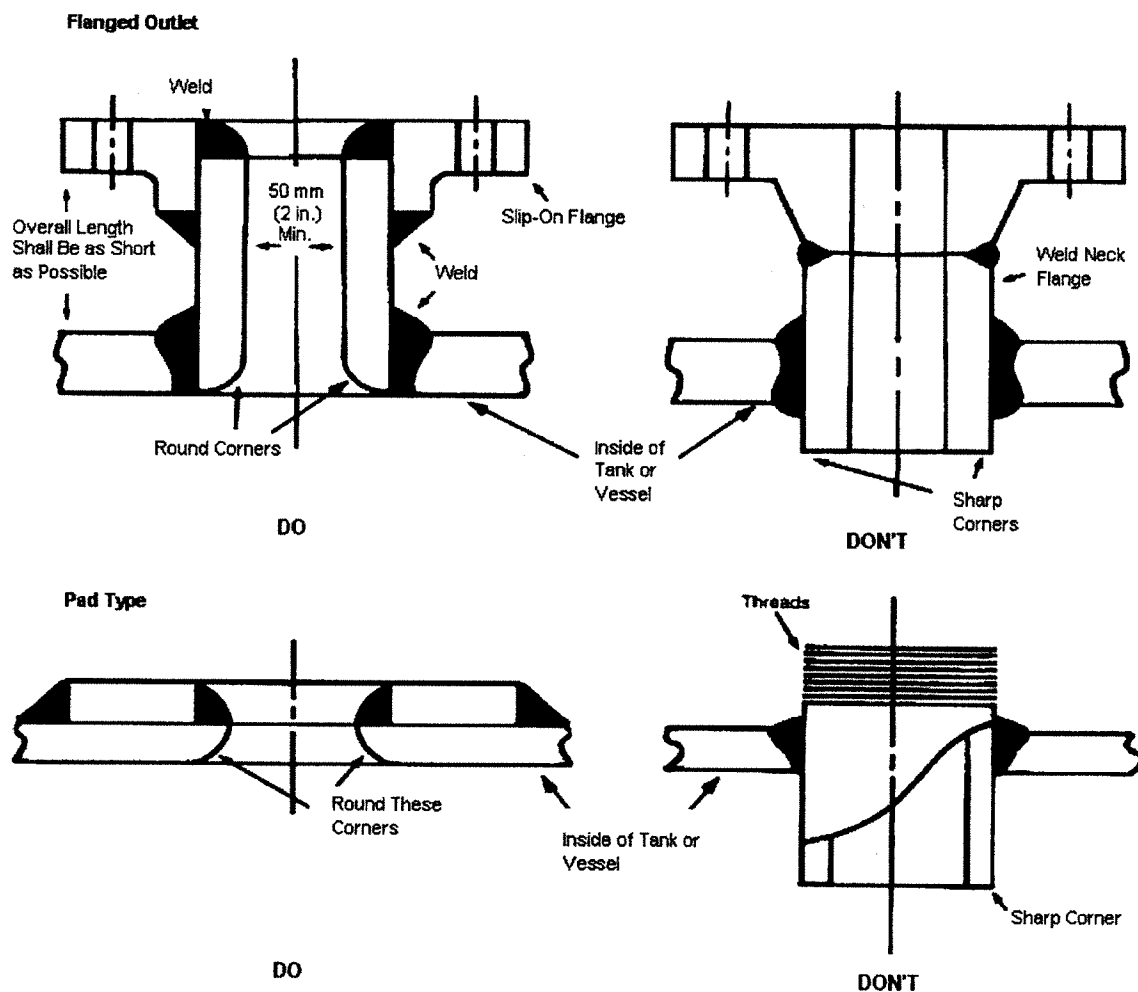
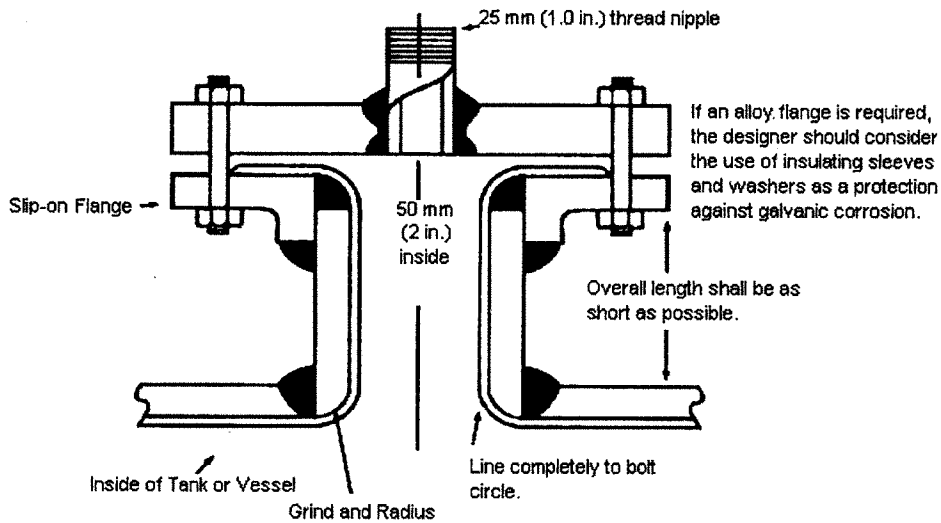

FIGURE A4
FIGURE A10
3.3.2 Threaded connections should not be used in tanks and vessels operating in corrosive environments (see Figure A4, Appendix A). However, if threaded connections cannot be avoided in corrosive environments, these parts shall be fabricated of corrosion-resistant materials, or constructed as shown in Figure A10, Appendix A.
3.3.3 Nozzle connections to be lined shall be as short as possible and be a minimum of 50 mm (2 in.) in diameter (see Figure A4, Appendix A). Connections less than 50 mm (2 in.) in diameter shall be suitably attached through a reducing flange (see Figure A10, Appendix A). When trowel-applied thick-film linings are required, additional nozzle inside diameter shall be allowed for lining thickness.